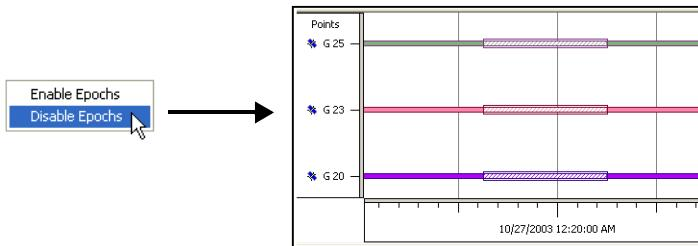

Figure 6-5. Disable Selected Epochs
3. Once selected, right-click within the view and click **Disable** (or **Enable**) on the pop-up menu. Disabled epochs display with slanting lines (Figure 6-5).